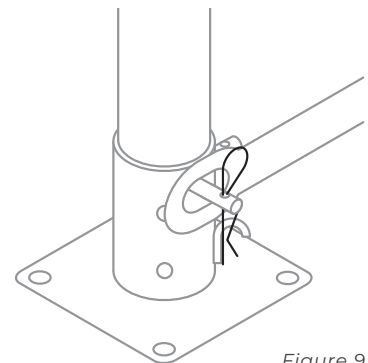

Figure 9
11. Slide the tubes of the base frame over the horizontal rod of the base plate. Then place the R-pin as illustrated in figure 9 to prevent the base frame from sliding off the rod.